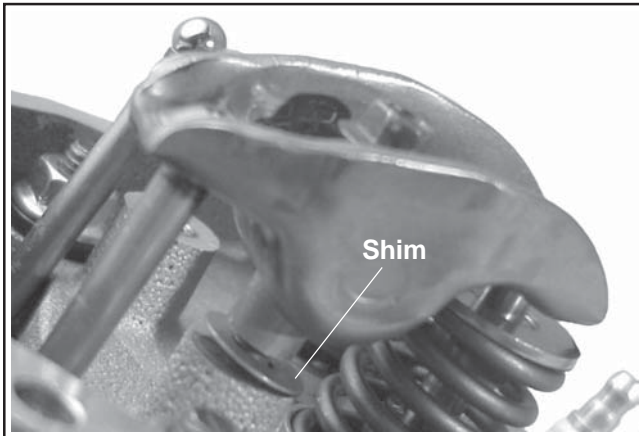
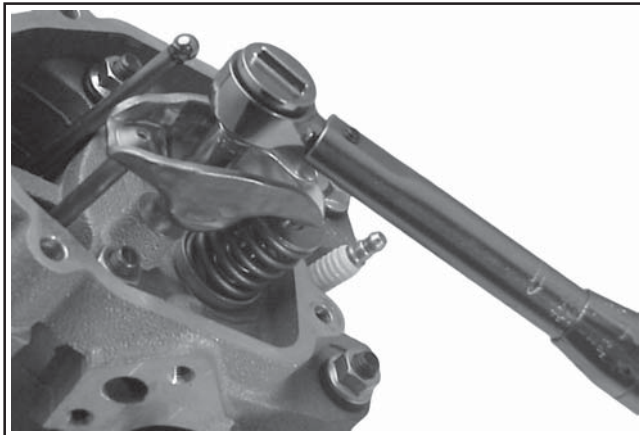

Figure 11-30. Installing Shim(s).
Figure 11-31. Torquing Rocker Arm.
- Remove the rocker arm assembly and place the required shim(s) on the screw/stud, below the pivot. Lightly lubricate all moving/contact surfaces with engine oil. See Figure 11-30.
14. Reassemble the rocker arm and pivot assembly to the head and seat the push rod. See Figure 11-30. Torque the fastener; **11.3 N·m (100 in. lb.)** for a hex. flange screw, or **17.3 N·m (153 in. lb.)** for a lock nut. See Figure 11-31.